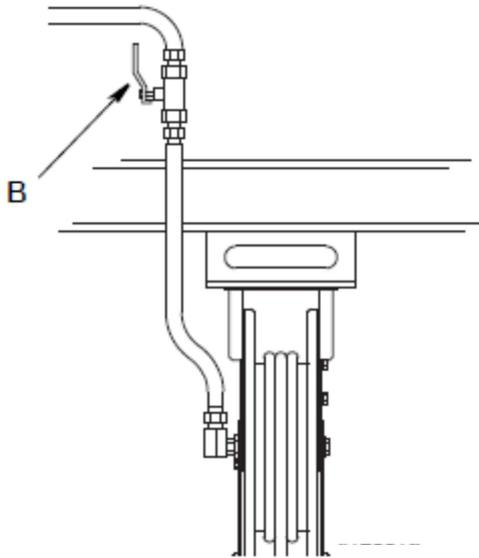

Fig. 7
4. Open the stop valve (B, Fig. 7) at all metering points and start the pump in order to pressurize the system.